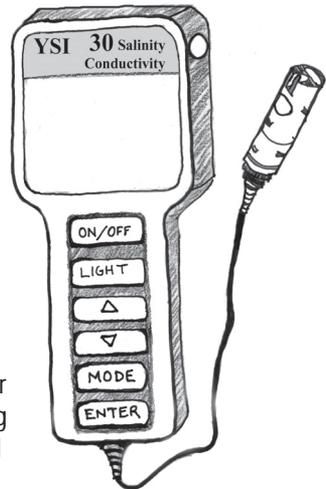

Figure 3-20: YSI 30 Meter
- 1 YSI Model 30 Conductivity, Salinity, & Temperature Meter (Figure 3-20).
1. Press and release the **ON/OFF** button to turn the meter on (Figure 3-20).
3. Dip the probe into the sample container making sure that the large oval opening on the probe is completely submerged in the water sample or waterbody (Figure 3-20).